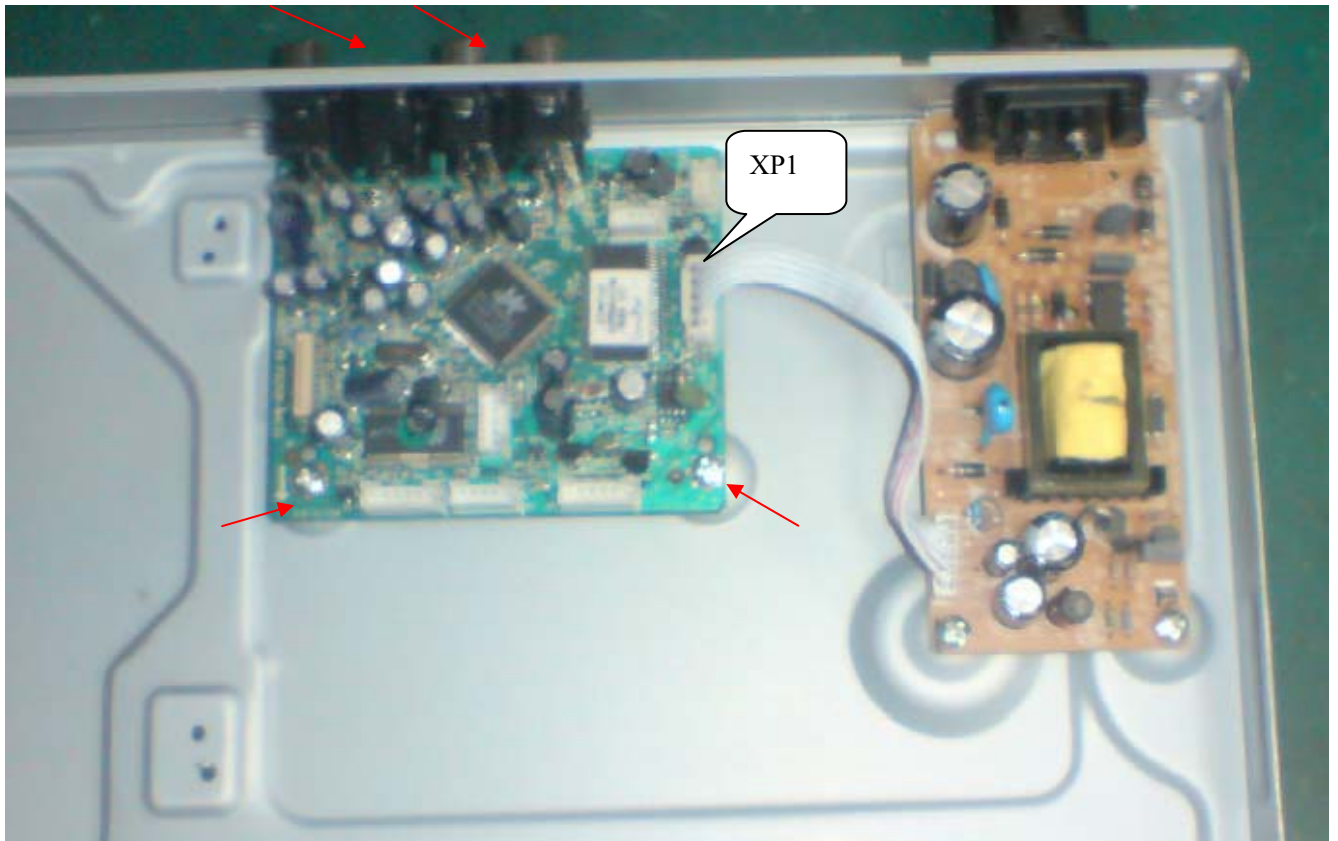

Figure 7
**Step6:** Dismantling Main Board, first disconnect the connector (XP1), and then remove 4screws. (Figure 7)